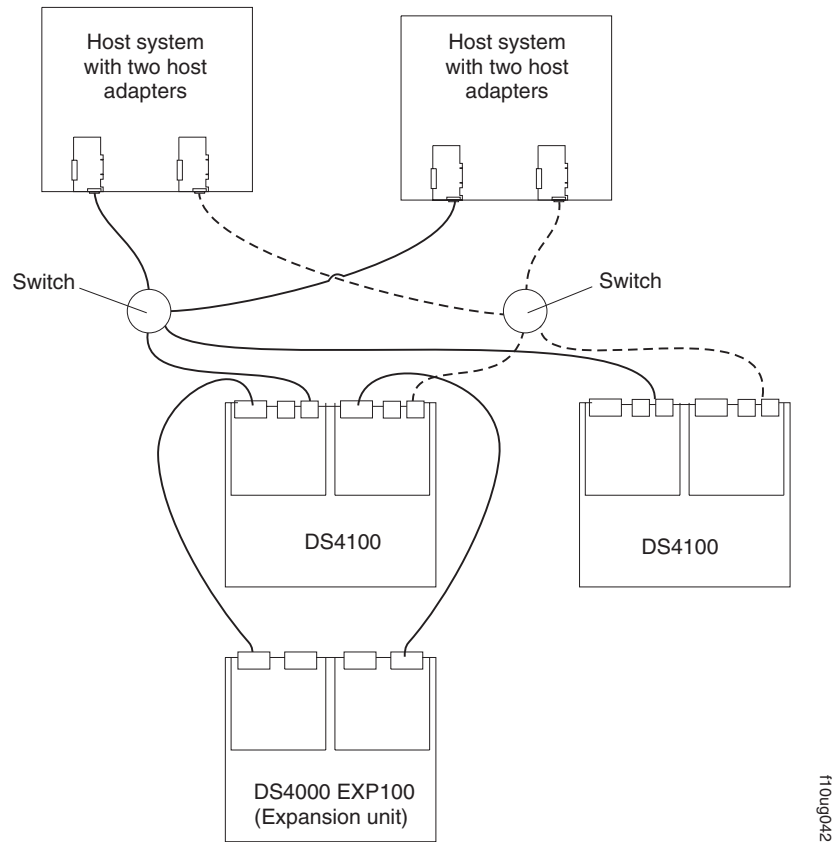

Figure 27. Example of a dual SAN fabric configuration (base storage server)
- Dual SAN fabric configuration, with an additional DS4100 and a DS4000 EXP100 attached, as shown in Figure 27 on page 39
In Figure 27, the fibre channel switches are not connected together. Each switch forms its own SAN fabric.